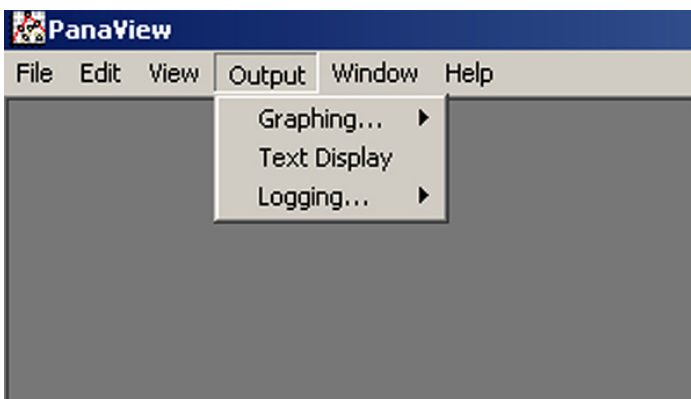

Figure 19: The output menu
1. In *PanaView*, open the *Output* menu (see *Figure 19* below) and click on the *Text Display* option.